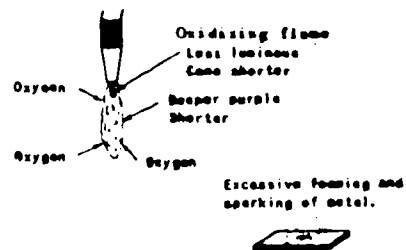

Figure 5-21. Oxidizing Flame
----- OXIDIZING FLAME. The oxidizing flame (Figure 5-21) results from an excess of oxygen. We never use the oxidizing flame in heating. It is sometimes used by welders to melt rivets.